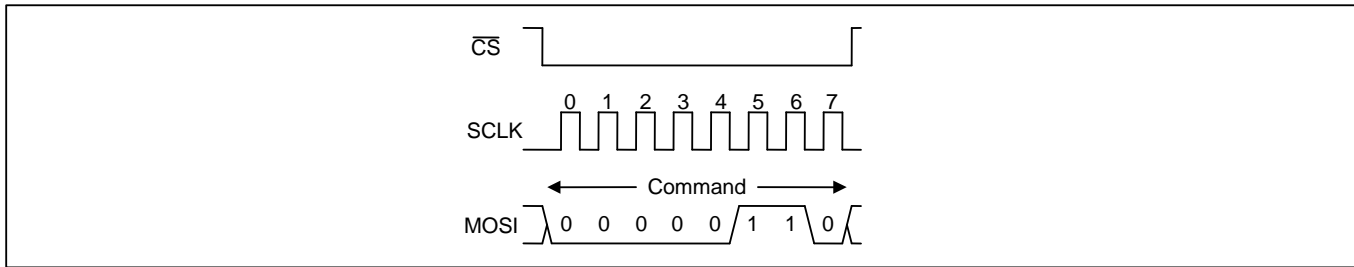
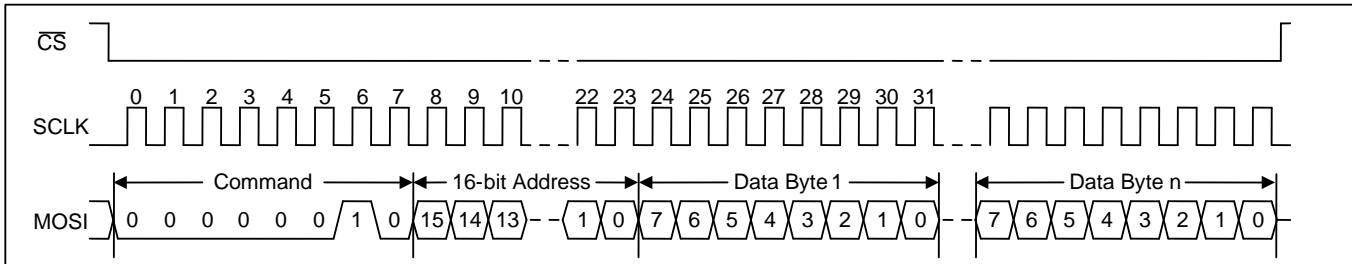

Figure 7 - SPI Write Enable Transaction Functional Timing (ZL30265 and ZL30267 Only)
Figure 8 - SPI Write Transaction Functional Timing
**Register Write Transactions.** The device registers are accessible when  $EESEL=0$ . After driving CSN low, the bus master transmits the write command followed by the 16-bit register address followed by the first data byte to be written. The device receives the first data byte on MOSI, writes it to the specified register, increments its internal address register, and prepares to receive the next data byte. If the master continues to transmit, the device continues to write the data received and increment its address counter. The write transaction is completed when the bus master drives CSN high. See Figure 8.
**EEPROM Writes (ZL30265, ZL30267 Only).** The internal EEPROM memory is accessible when the  $EESEL$  bit is 1. After driving CSN low, the bus master transmits the write enable command and then drives CSN high to set the internal write enable latch. The bus master then drives CSN low again and transmits the write command followed by the 16-bit address followed by the first data byte to be written. The device first copies the page to be written from EEPROM to its page buffer. The device then receives the first data byte on MOSI, writes it to its page buffer, increments its internal address register, and prepares to receive the next data byte. If the master continues to transmit, the device continues to write the data received to its page buffer and continues to increment its address counter. The address counter rolls over at the 32-byte page boundary (i.e. when the five least-significant address bits are 11111). When the bus master drives CSN high, the device transfers the data in the page buffer to the appropriate page in the EEPROM memory. See Figure 7 and Figure 8.